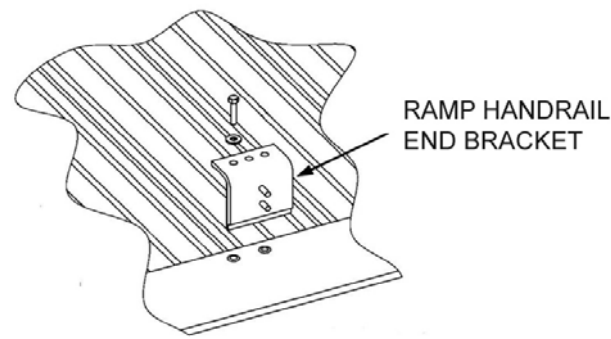

FIG. 15b
- b. For 10' ramps, two additional ramp handrail end brackets are installed using one 5/16" x 1 1/2" bolt and washer at the center of each ramp section (FIG. 15b). **NOTE:** Ensure holes in ramp handrail end bracket align with threaded inserts in ramp. Install one fastener into either of the two inserts.